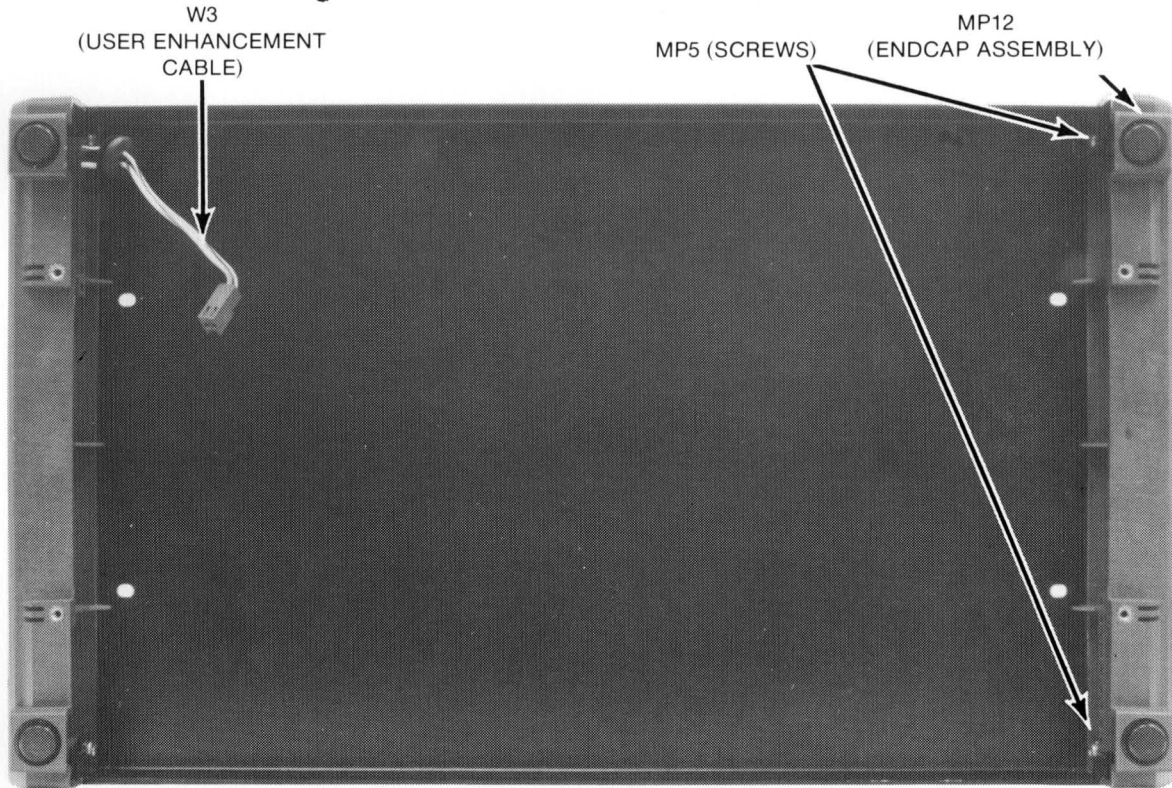

Figure 2-8. Emulator Pod - Inside Top Cover
- f. Carefully pull the emulator pod's top cover away from its bottom cover, making sure to unplug the user enhancement cable (W3; figure 2-8) from the board nearest the top cover as you do so.
- g. Further disassembly of the pod top cover may be accomplished by removing the two screws (MP5; figure 2-8) which hold each endcap to the sheet metal.
g. If the emulator pod endcaps were removed from the top cover, reattach them using screws MP5; refer to figure 2-8 for details.